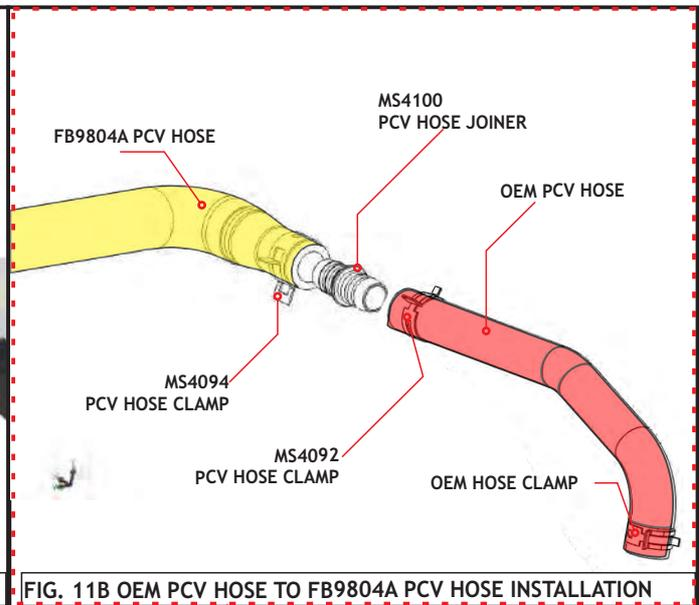

FIG. 11B OEM PCV HOSE TO FB9804A PCV HOSE INSTALLATION
- Install the larger end of the shorter supplied MH9804A PCV hose on to the upper, outlet port, of the RCC351 Catchcan and tighten with a MS4091 hose clamp. Install the other end of the MH9804A PCV hose on to the supplied MS4100 PCV hose joiner, tightening with a MS4094 PCV hose clamp. Insert other end of MS4100 PCV hose joiner into the open end of the OEM PCV hose and tighten with a supplied MS4092 hose clamp as shown in Fig. 11B.